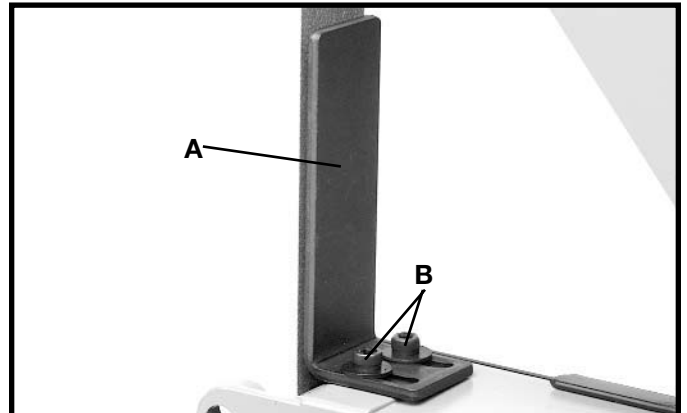

Fig. 22
The platen (A) Fig. 22, is constructed of heavy steel to properly support the work. To adjust, remove the belt sander table (see the section "BELT SANDER TABLE" in assembly). Loosen the two screws (B) Fig. 22, that fasten the bottom of the platen to the frame, adjust the platen (A), so that it is almost touching the back of the sanding belt, and tighten the two screws (B).
To remove the platen (A) Fig. 22, for stropping, polishing or other special operations, remove the two screws (B) that fasten the bottom of the platen to the frame.